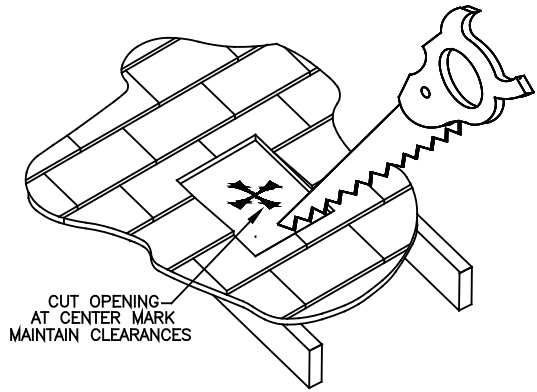

Figure 29
5. Remove shingles or other roof covering as necessary to cut the rectangular hole for the Support Box. Cut the hole 1/8-inch larger than the dimensions of the Support Box (*Figure 29*). The rectangular hole should be centered on the small hole which you drilled through the ceiling to mark the location. Again, verify that you are not cutting through rafters or framing members.